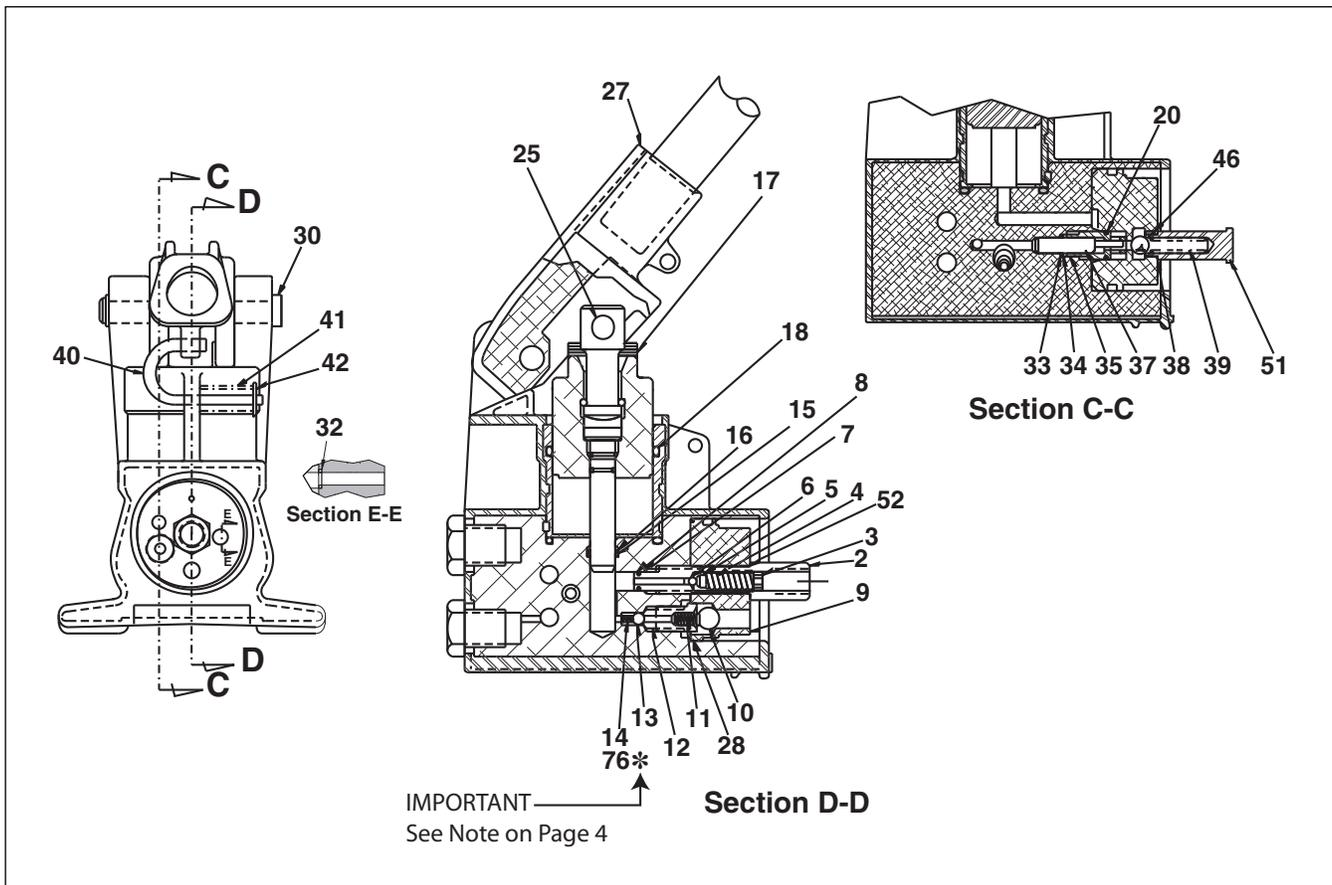

Figure 3. Sections B-B, C-C and D-D
**\* Note - Figure 3:** Pump must function properly when used in cold ambient temperatures. Install spring guide (item 76), new conical spring (item 14), new ball (item 13), and new valve seat (item 12) to ensure reliable pump operation during cold conditions.